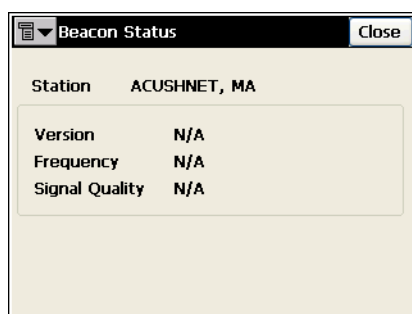

Figure 5-14. Beacon Status
- **Status:** opens the **Beacon Status** screen to view information on beacon link and the receiver beacon board (Figure 5-14).